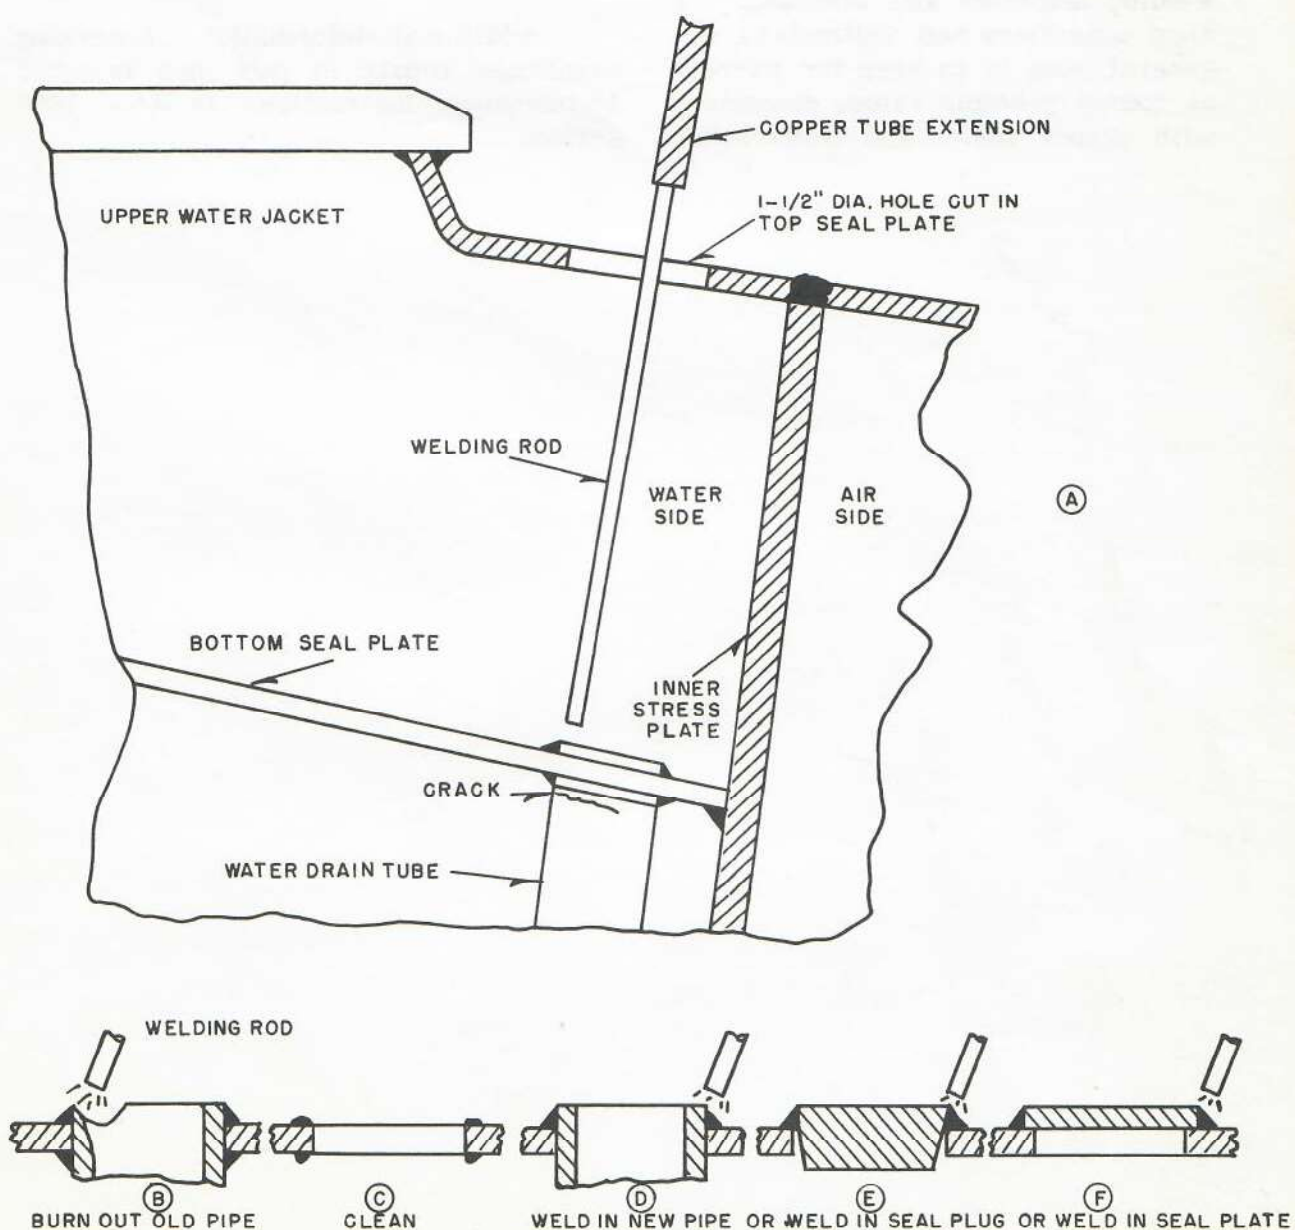

Fig. 3 - Procedure For Repairing Water Drain Tube
pipe can be burned out with the aid of a copper tube extension approximately 8" long wrapped with insulating tape. The bar end of the electrode is inserted into one end, that may be flattened, to assure a tight fit, and the other end of the copper tube is inserted into the electrode holder as a conventional electrode. This provides flexibility and access to the water drain pipe junction, see Fig. 3.
5. Burning is done with a 1/8" diameter E-6010 welding electrode (electrode positive) with the polarity changed to electrode negative and with relatively high current. This burning action is similar to carbon arc burning and care should be taken to start the burn in the I.D. of the pipe working toward the O.D. as shown in "B," Fig. 3. Do not burn excessively into the seal plate, because this results in a poor fitup when fitting in a new pipe. A small metal receptacle may be placed underneath the hole to catch the hot burnt metal. Item "C," Fig. 3 shows the clean hole.
6. If it is necessary to replace a new pipe, insert the pipe so it protrudes slightly above seal plate, Item "D," Fig. 3, and weld a circumferential fillet with a 3/32" or 1/8" diameter stabilized stainless steel lime coated welding electrode. This weld can be completed from the top side of the seal plate and no fillet is necessary on the bottom side. The weld at the other end of the pipe at the lower water jacket is relatively simple to apply using same type of welding rod.
7. 567A and B engines are built with a single upper water manifold and are equipped with two water drain pipes. In the event that only one pipe fails, it is satisfactory to seal the water hole as shown in Items "E" and "F," Fig. 3, with a steel plug or plate. This provides only one drain pipe which is sufficient for drainage.
8. In sealing one drain pipe it is necessary to remove the pipe completely and seal. See "A" and "C," Fig. 1. Sealing "C" is covered in the above discussion whereas Section "A," where weld is made to liner support plate, is ground off smooth and a plug or plate is welded in similar to operation "E" or "F," Fig. 3. This weld is relatively simple because access can be made through the side hand hole.
9. In the event that repair welding is done on mild steel drain tubes, use any A.W.S. Class E-6010 or 6012 type electrode. This electrode may be also used in welding the seal plugs or plates, Items "E" or "F," Fig. 3, providing the stainless steel tube or fillet weld metal is completely removed.